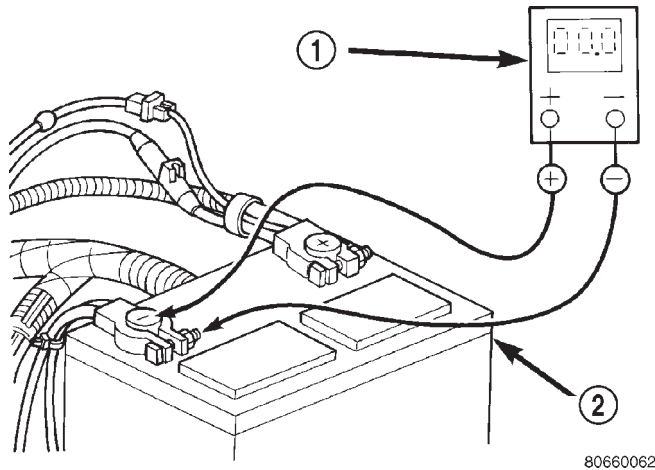

Fig. 2 Test Negative Battery Cable Connection Resistance - Typical
(1) Connect positive lead of voltmeter to negative battery cable terminal post. Connect negative lead of voltmeter to negative battery cable clamp (Fig. 2). Rotate and hold ignition switch in Start position. Observe voltmeter. If voltage is detected, correct poor contact between cable clamp and terminal post. **Note: Certain diesel equipped models use dual batteries. If equipped with dual battery system, procedure must be performed twice, once for each battery.**